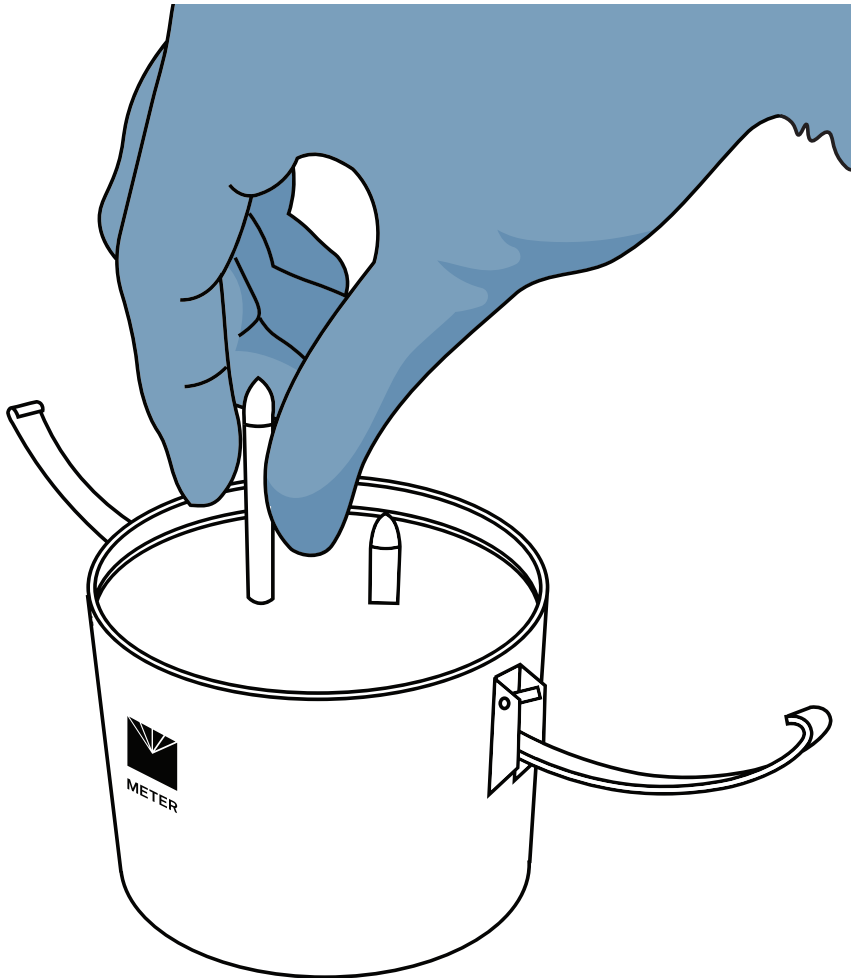

Figure 40 Screwing in tensiometer shafts
8. Screw in the tensiometer shafts one at a time, in the matching marked hole (i.e., the longer shaft screws into the hole marked long and the short shaft into the hole marked short) (Figure 40).